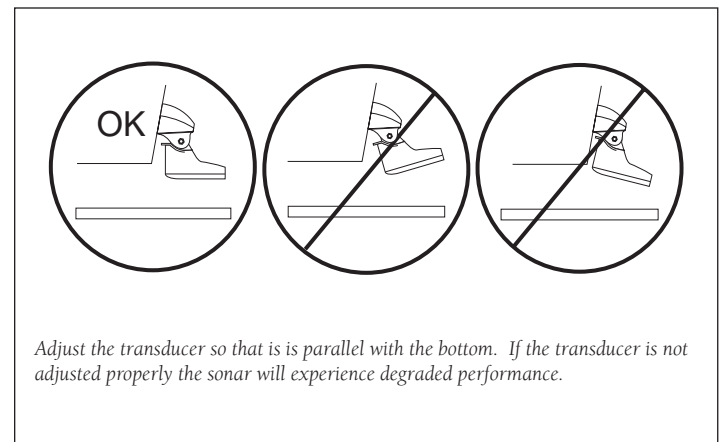

Figure 4
- Attach the transducer assembly to the transom using the 5 x 30mm screws. Adjust the transducer to extend beyond the bottom of the transom approximately 1/8" (3 mm) on fiberglass hulls or 3/8" (10mm) on aluminum hulls. Eyeball the transducer to be aligned parallel with the water (see Figure 4).